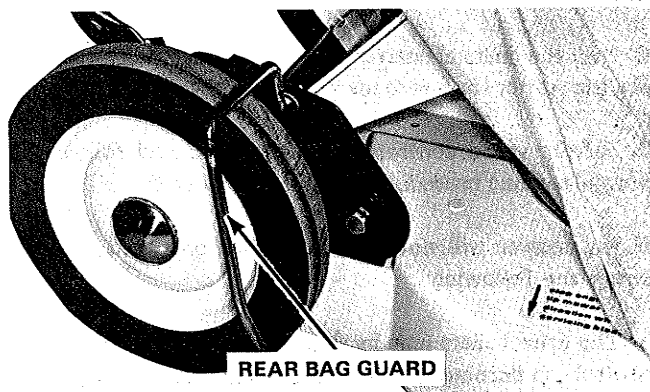

FIGURE 16
5. Install the rear bag guard on the right rear bracket with hardware provided. Guard must hang vertically over outside of wheel (See Figure 16).